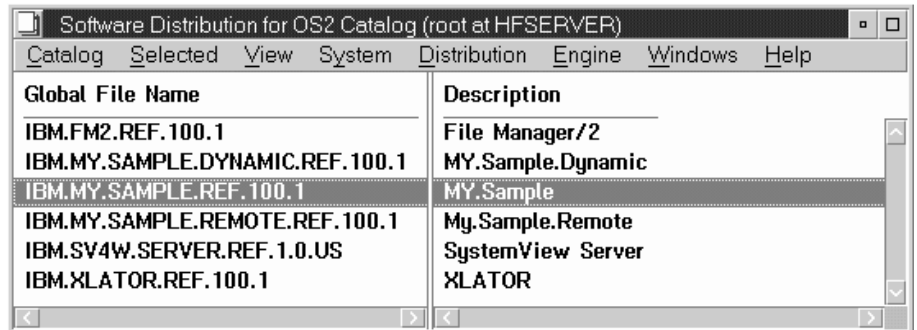

Figure 132. TME 10 Software Distribution for OS/2 Catalog window
- 8 Select **Catalog** from **Windows** menu choice. The TME 10 Software Distribution for OS/2 Catalog window is displayed, as shown in Figure 132.